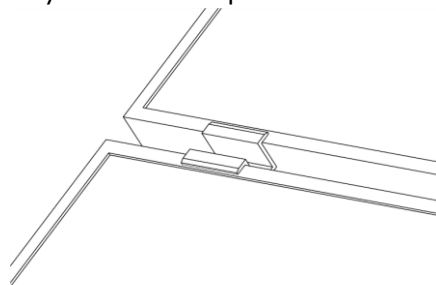

FIG.14 Using middle clamps as spacers
12. The modules must be fitted row by row, starting from the bottom row and following the pre-tightening of the bottom row of end clamps. To mount the modules at equal distances in a row (FIG.14), the middle clamps may be used as spacers but must be removed after assembly.